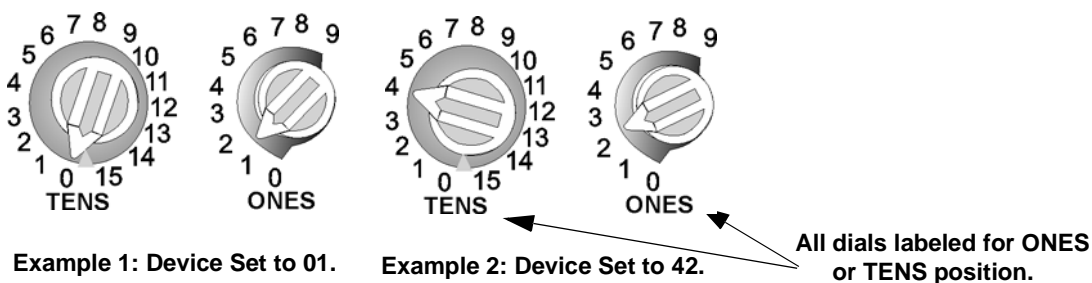

Figure 5-5 SK SLC Device Addressing Using Rotary Dials
**Example 1:** To select device address 1, turn the *ONES* rotary dial to **1** and the *TENS* rotary dial to **0** as shown in Figure 5-5.
**Example 2:** To select device address 42, turn the *ONES* rotary dial to **2** and the *TENS* rotary dial to **4** as show in Figure 5-5.